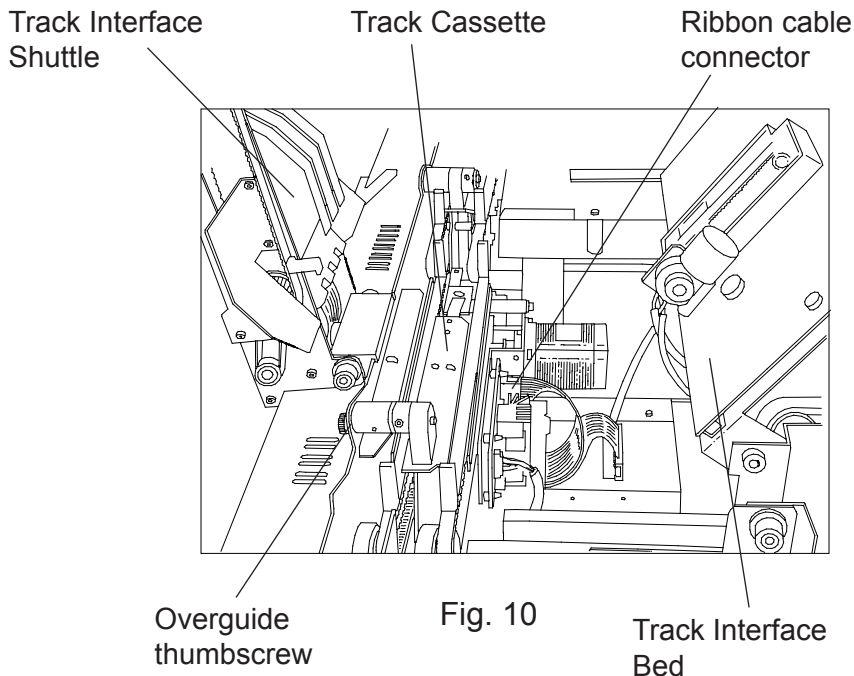

Fig. 10
3. Unplug the ribbon cable from the PCB next to the motor. Lift the cassette upwards to remove it from the slide posts (see Fig. 10 below).